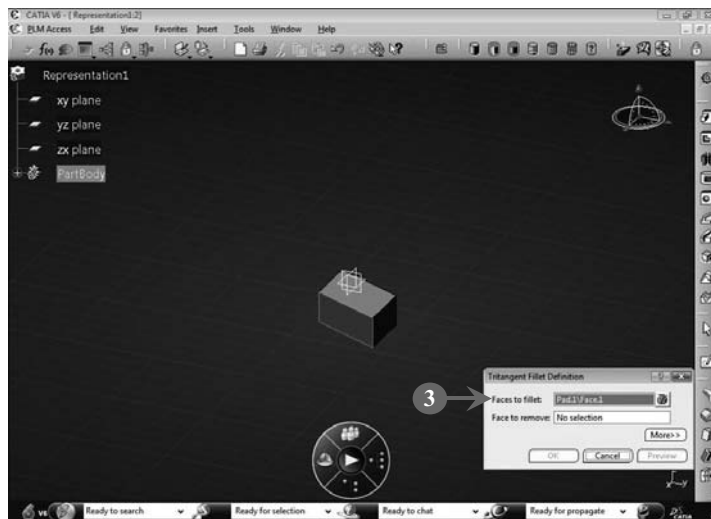

FIGURE 3.63
The tritangent fillet feature is selected and the **Tritangent Fillet Definition** dialog box opens (**Figure 3.63**).
3. Select the first face of the solid model to fillet, as shown in **Figure 3.63**: